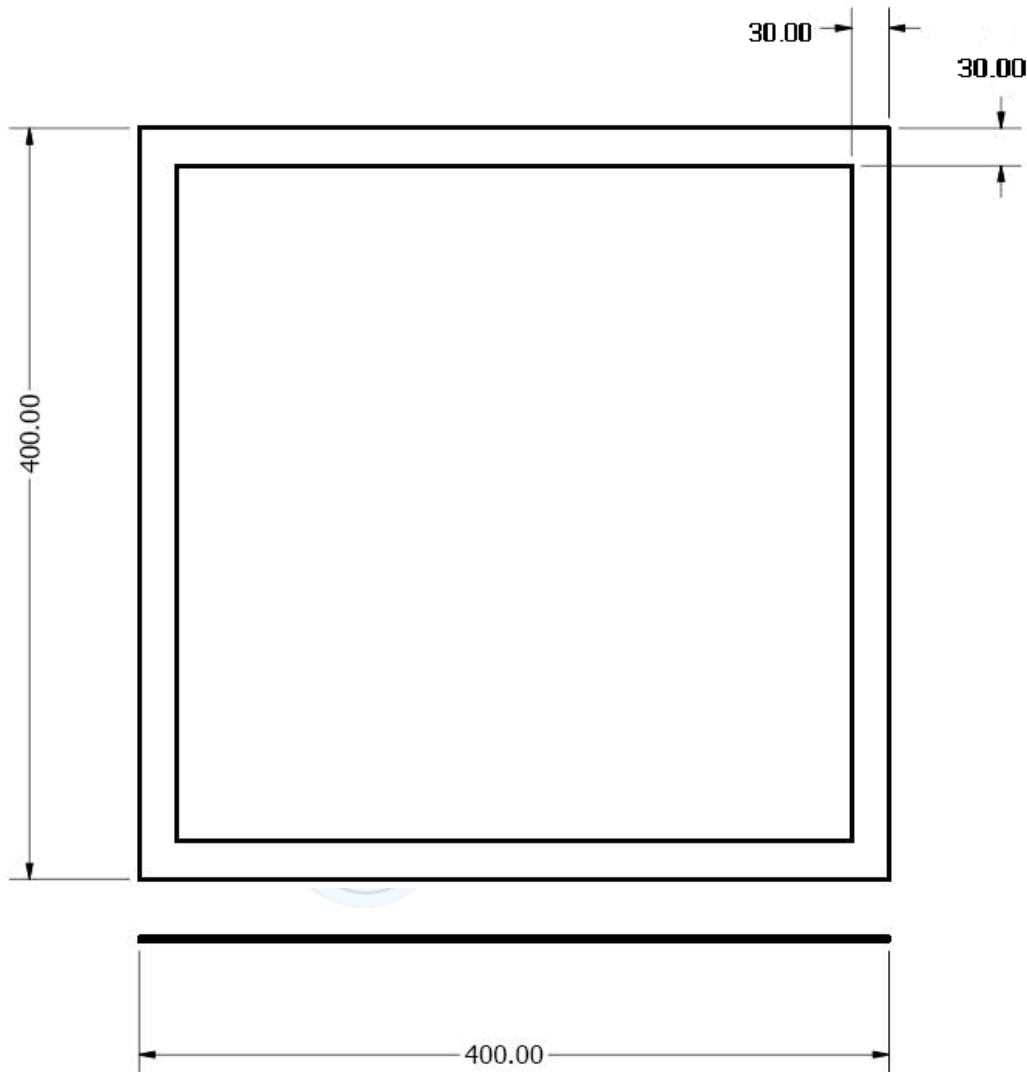

Figure 2 : Rectangular Window Dimensions (in mm)
- 3.2. There shall be two rectangular window frames, 30mm thickness, and one on each section of the tank 500mm from the ends of the tank. See Figure 2 for detailed dimensions.